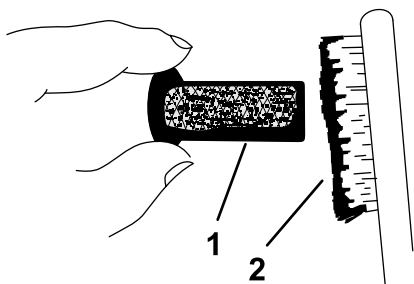

Figure 48
- Use a brush to carefully remove carbon deposits from the spark-arrester screen (Figure 48).